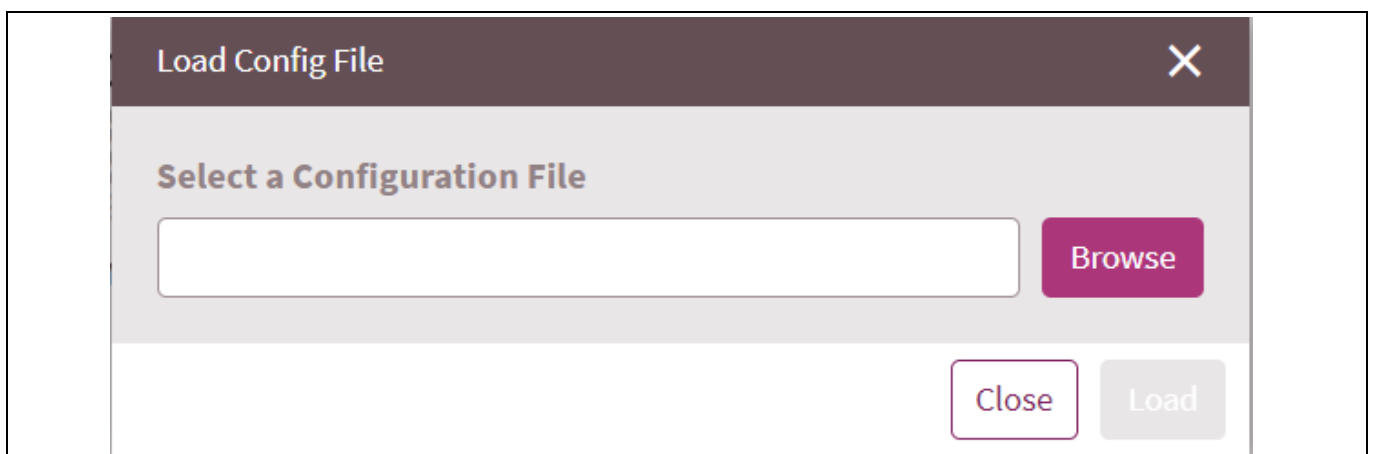

Figure 38 Browse to select the necessary configuration file
2. Click **Browse** and select the .txt file, as shown in Figure 38.